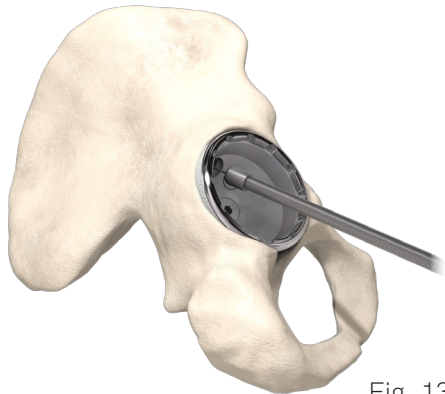

Fig. 13
5. Verify hole depth using the depth gauge to determine the length of screw required (Fig 13).